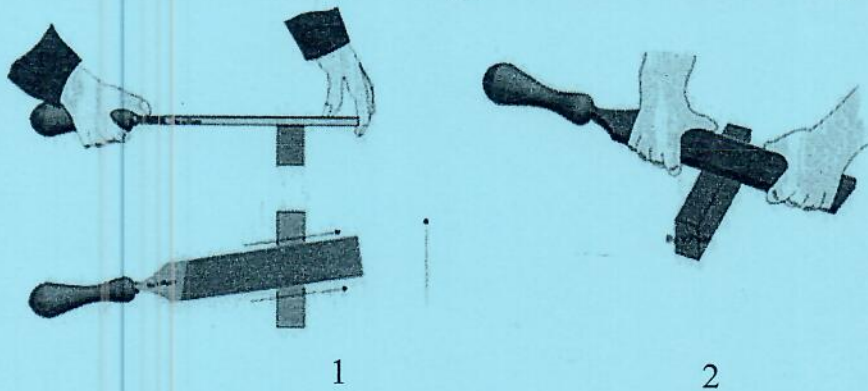

Figure 1 Filing metals using a hand file.
- d) Figure 1 shows two methods filing metals.